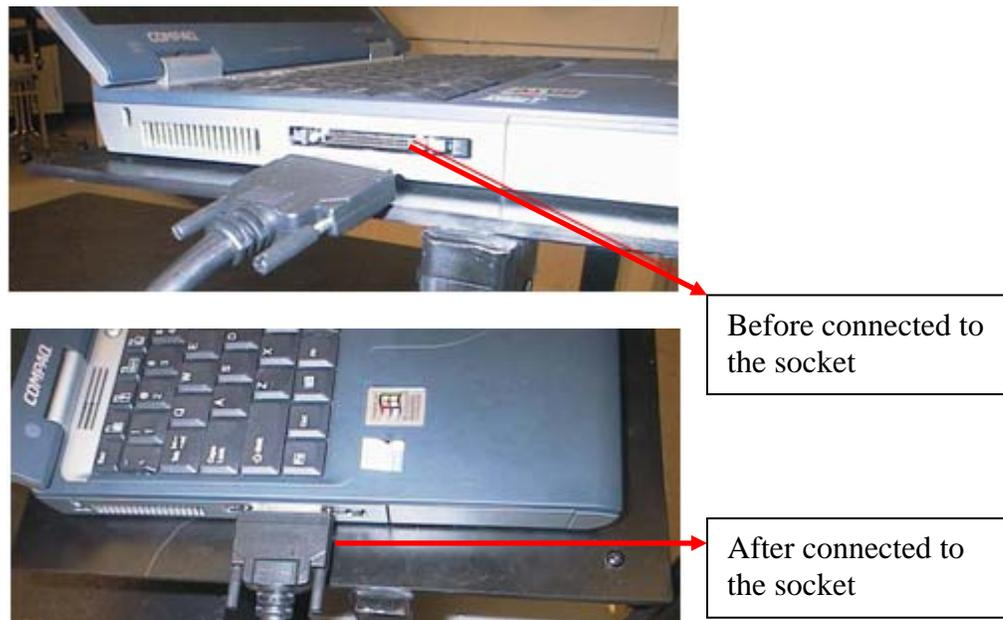

Figure 10 Connection of the data acquisition cable to the socket.
- **Host computer:** installed data acquisition card and software; the data acquisition card (NI DAQCard-6062E) is a PCMCIA card installed in the socket of a laptop computer. The computer is set up inside the vehicle and connected to the scanning laser range finder by cable 1, cable 2, and the data acquisition cable. Figure 10 shows the connection of the data acquisition cable to the socket in the computer.